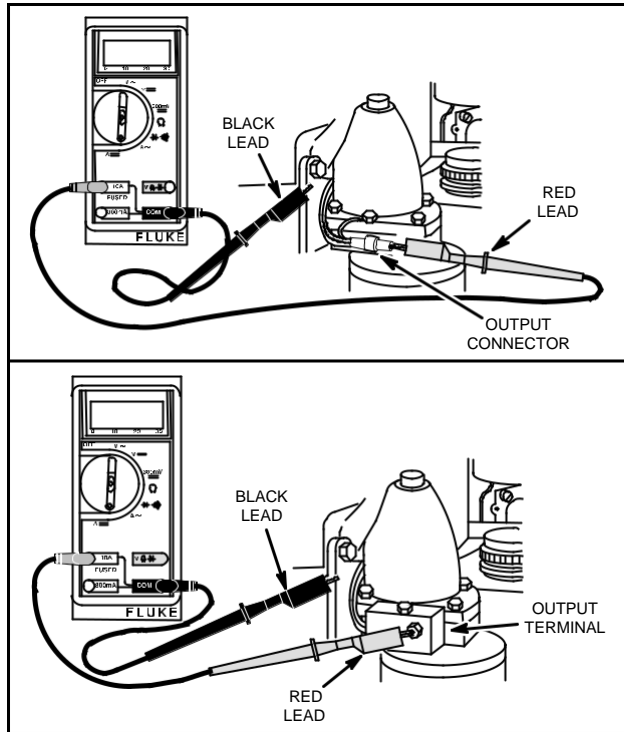

Fig. 740 – CHECKING ALTERNATOR OUTPUT
4. Attach RED test lead clip to DC output terminal, Fig. 740.